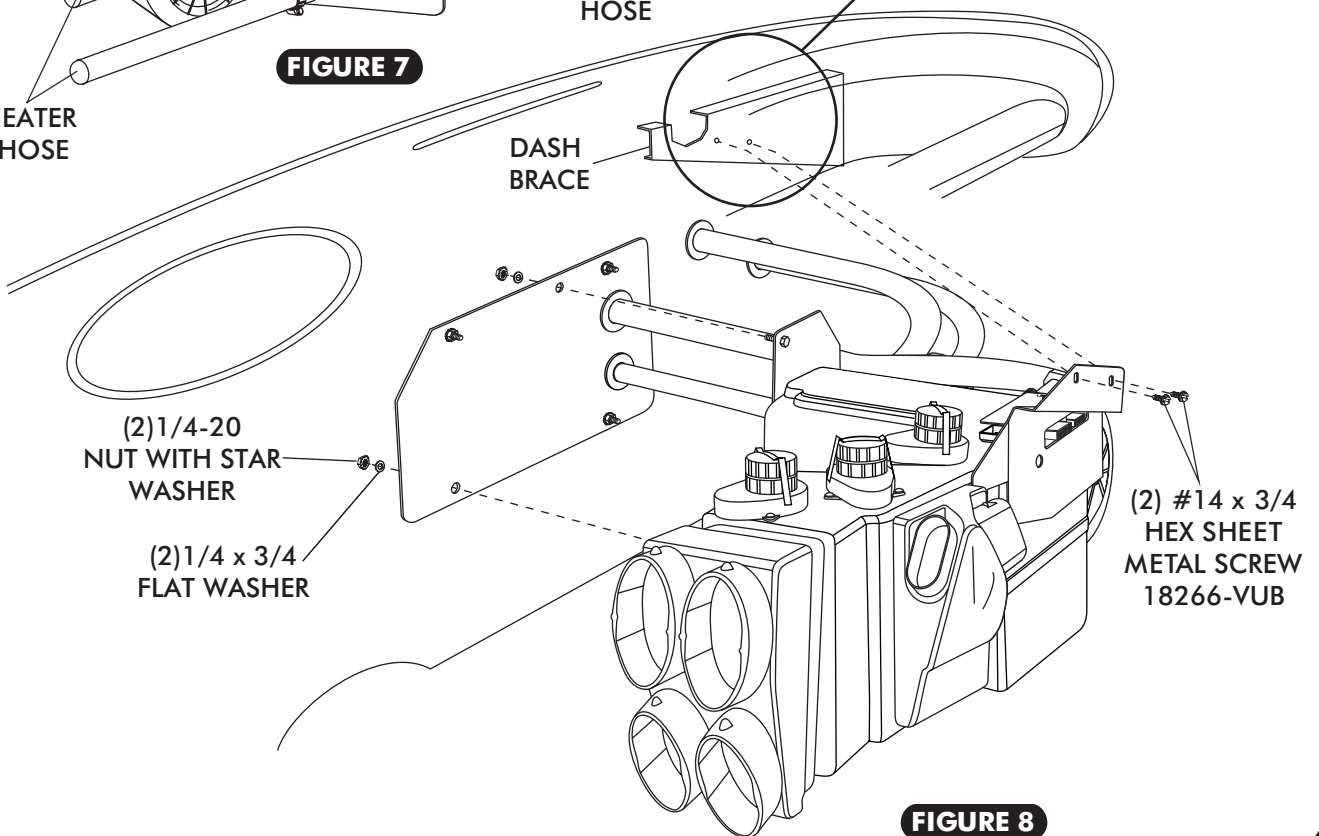

FIGURE 8
- LIFT EVAPORATOR UNIT UP UNDER THE DASHBOARD. SECURE LOOSELY TO THE FIREWALL FROM THE ENGINE COMPARTMENT SIDE USING (2) 1/4-20 NUT WITH STAR WASHER, FLAT WASHERS. SEE FIGURE 8.
- SECURE THE FRONT EVAPORATOR MOUNTING BRACKET TO COWL USING (2) #14 x 3/4 HEX SHEET METAL SCREWS SEE FIGURE 8 BELOW.